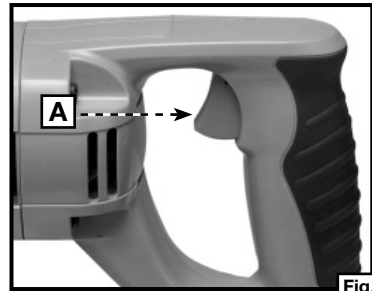

Fig. 16
2. Hold the saw firmly (see Fig. 14 or Fig.15). Squeeze the trigger switch (A) Fig. 16 to start the motor. Release the trigger to stop the motor.
The saw is equipped with a variable speed control switch (A) Fig. 16 (0 to 2900 SPM). As the switch trigger is squeezed, the speed of the saw blade increases.